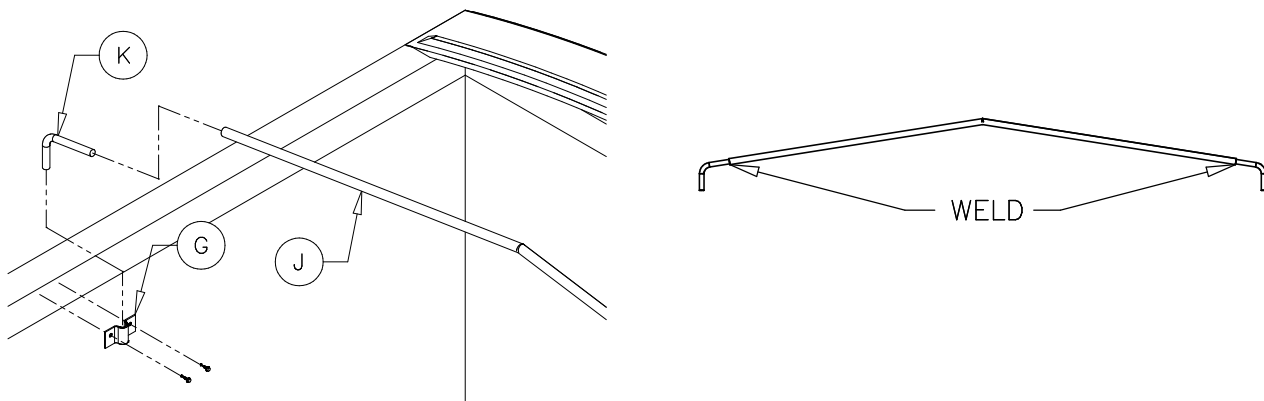

Figure 3
(See Figure 3)
Procedure: Three, four or five hoops (J) are provided according to the length of the trailer. Equally space the hoop holders (G) along the length of the trailer and locate the top edge of the hoop holder 1inch down from the top edge of the inside trailer wall. Once in place mark the position of the hoop holder and drill two 3/16" holes into the trailer wall. Secure the hoop holder using the 1/4"x1" lag screws provided. Follow this procedure to the remaining hoop holders making sure that they are at the same level, equally spaced, and directly across from each other. Insert bent angle (I) with one end fitted into the hoop holder (G) and the other end in the hoop (J), then repeat for the opposite side of the trailer. Measure the vertical distance from the inside of the trailer floor to the top center of the front or rear hood. Record the measured distance. Center the hoop on the bent angles (I) and measure the vertical distance from the inside trailer floor to the top center of the hoop. The measurement to the top of the hoop should be 3/4 inch greater than the distance from the trailer floor to the top of either hood. If the distance is less than or greater than the required 3/4 inch, adjust the hoop and bent angles accordingly. Weld the hoop to the bent angles making sure that the hoop is parallel with the bent angles (see Figure 3).